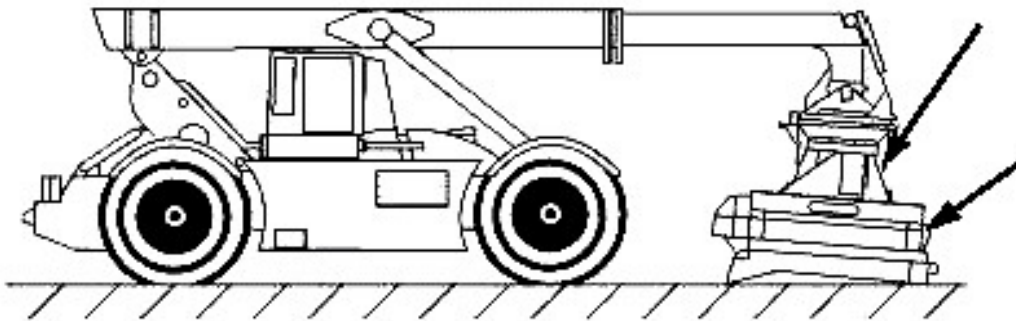

Figure 3-186
2. Position tophandler directly over and level with forklift kit (see Figure 3-186).